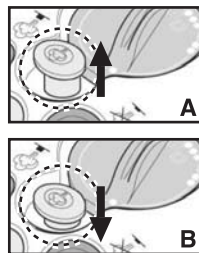

FIGURE 4
IMPORTANT: Make sure Steam Button is locked in lowered position (FIGURE 4-B) before dry ironing. This will prevent any water from accidentally dripping.
3. When Heating Indicator Light turns off, press Steam Button. Button will lock into raised position (FIGURE 4-A), and unit will begin emitting steam from steam vents on Ironing Plate.
4. To stop steam flow, press Steam Button again to lock it into lowered position (FIGURE 4-B).